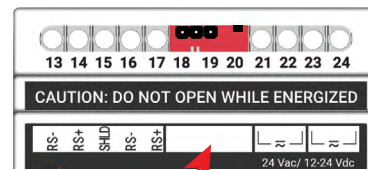

Figure 7b. Address place
- Write the address in the space provided on the TTSIM-3/4 cover shown in Figure 7b.